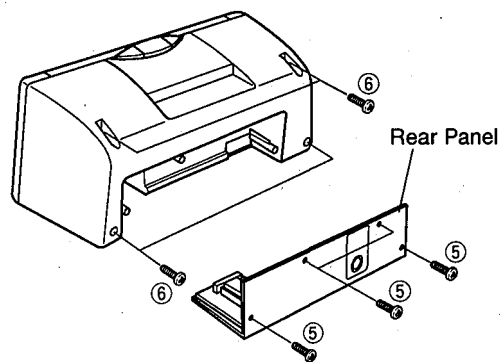

Fig. 4
Remove 4 screws (⑤) and then remove the Rear Panel in Fig. 4.
- a. Remove 4 screws (⑥) in Fig. 4.